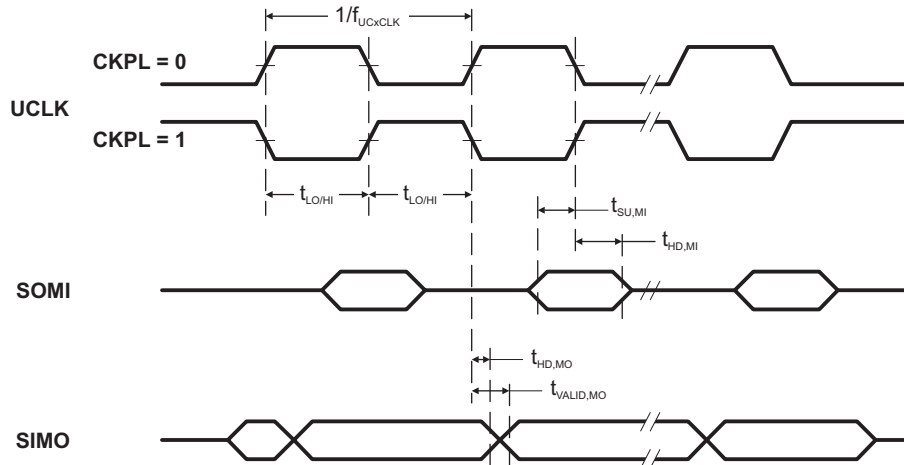
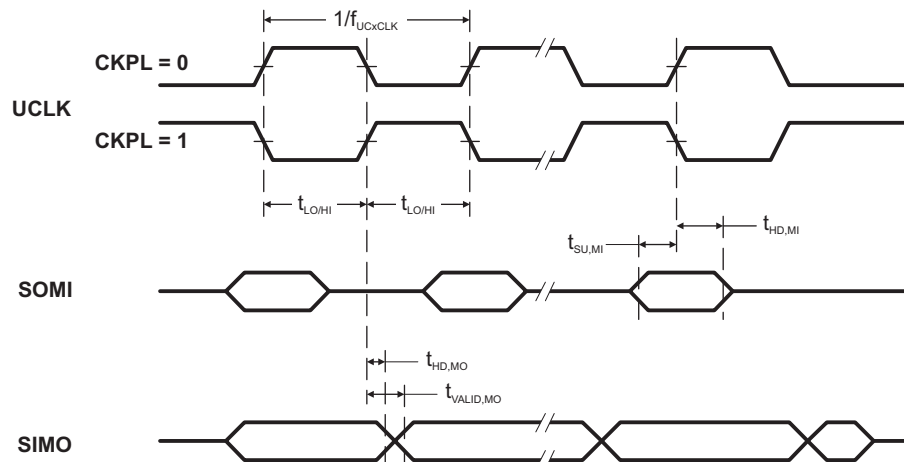

Figure 14. SPI Master Mode, CKPH = 0
Figure 15. SPI Master Mode, CKPH = 1
(see Note (1), Figure 14 and Figure 15)
- (2) Specifies the time to drive the next valid data to the SIMO output after the output changing UCLK clock edge. See the timing diagrams in Figure 14 and Figure 15.
- (3) Specifies how long data on the SIMO output is valid after the output changing UCLK clock edge. Negative values indicate that the data on the SIMO output can become invalid before the output changing clock edge observed on UCLK. See the timing diagrams in Figure 14 and Figure 15.